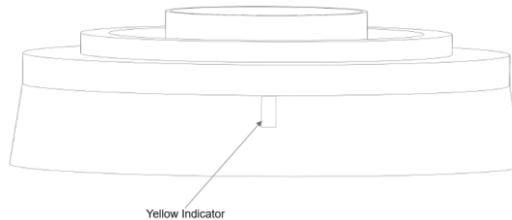

FIG.30
5. Replace the pads when they no longer clean effectively. Replace the brushes when they no longer clean effectively or the bristles have worn down to the yellow indicator as shown in FIG.30.